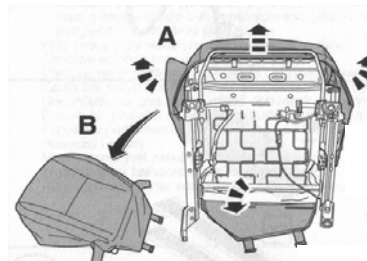

Fig 1
6. Unsnap j-clips and or remove "hog ring" clips and peel back cover. See Fig 1 & 2